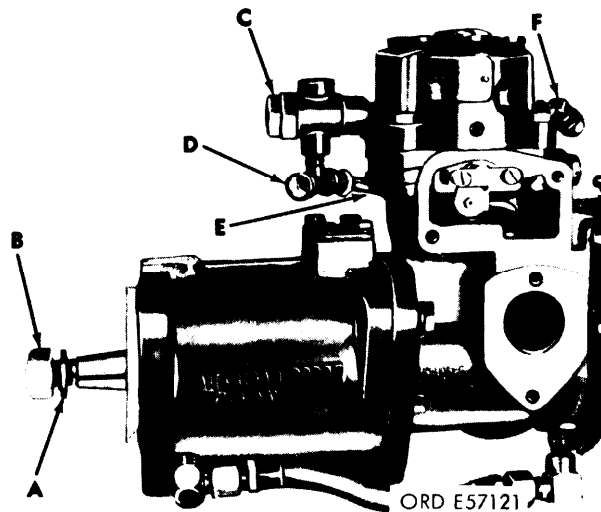
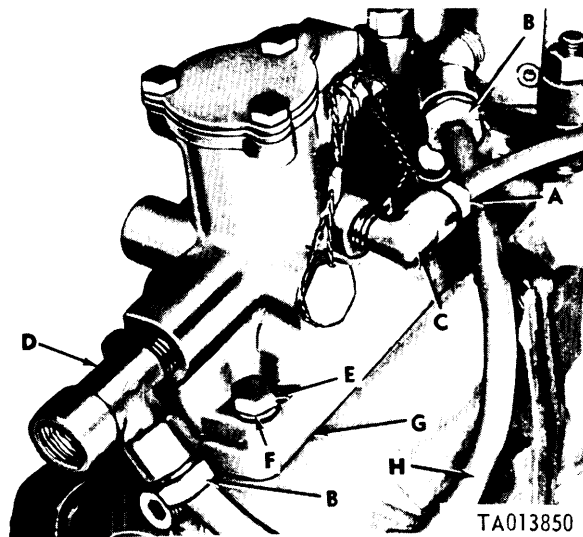
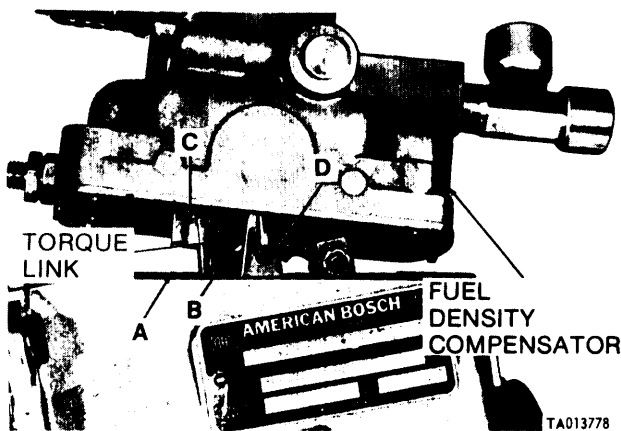

Figure 3-152. Installing overflow valve assembly
Figure 3-153. Installing fuel density compensator assembly.
Figure 3-155. Assembling fuel density compensator fuel stop plates (Code A pumps).
3-46. Installation of Fuel Density Compensator. a. *Installation of Fuel Density Compensator (Code B, C, D, E and F pumps).* Refer to figure 3-153. Position a new mounting gasket (G) on governor housing. Position fuel density compensator on governor housing and secure with four 1/4 x 1 1/4 capscrews (E) and four 1/4 inch lockwashers (F). Torque tighten screws 50-60 inch-pounds. Install density compensator to overflow valve tubing (E, fig. 3-152). Connect tubing (A) to elbow (C). Install tubing (H) to tee (D) and elbow in hydraulic head (B).
b. *Installation.* Refer to figure 3-152. Install lock-washer (A) and stet nut (B) on advance unit shaft. Tighten nut finger tight. Install overflow valve assembly (C) in position on hydraulic head.
b. *Installation of Fuel Density Compensator (Code A Pumps).* Refer to figure 3-155, Position a new mounting gasket (A) on governor housing. Engage dovetail in torque link stop (B) with dovetails on guide (C) and compensator plate (D). All divetails must be properly engaged. Refer to a above and figure 3-153 to complete installation of compensator on injection pump.